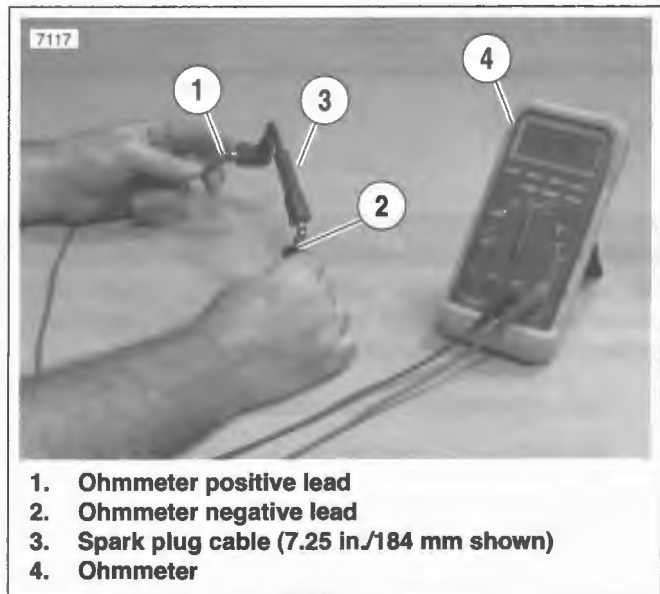

Figure 8-9. Testing Resistance
3. See Figure 8-9. Check spark plug cable resistance with an ohmmeter. Replace cables not meeting resistance specifications.